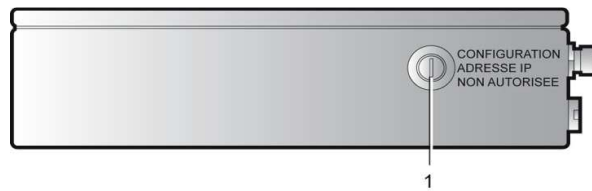

Figure 14-8: The 2-position lock must be in the vertical position to configure the IP address on the *Settings* page.
1. On the Control System, flip the IP address configuration key (Figure 14-8, 1) in the vertical position.